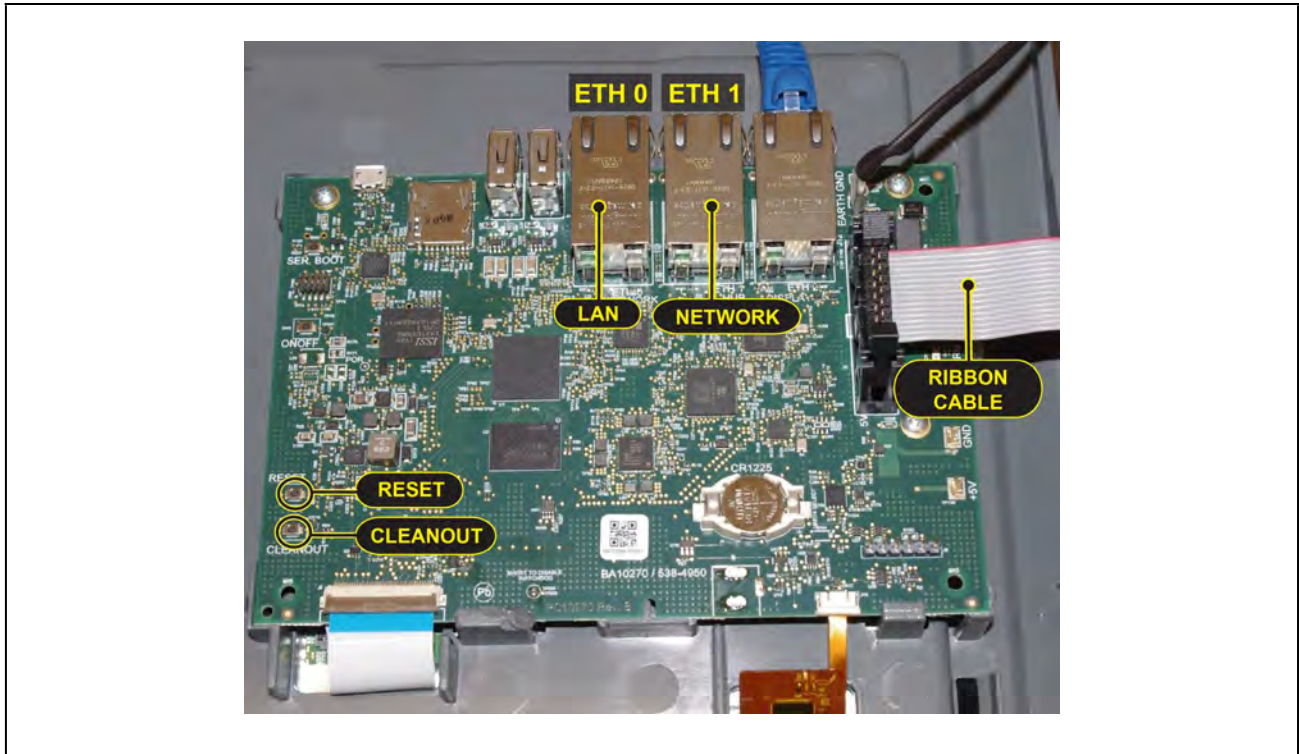

Figure 2-7 - E3 Circuit Board
2. Connect the 2-pin 7.5mm power connector and Ground wire as shown in *Figure 2-7*